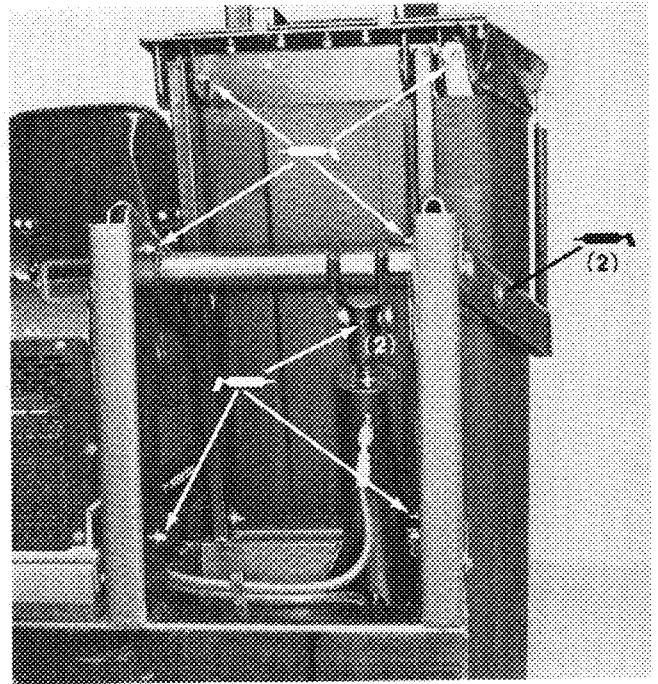

Figure 18
After every 25 hours of operation grease cylinder and pivot points with No. 2 multi-purpose lithium base grease. There are (8) grease fittings at various pivot points and (1) fitting on each end of cylinder (Fig. 18).